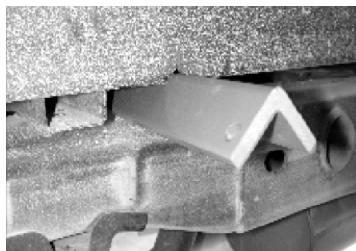
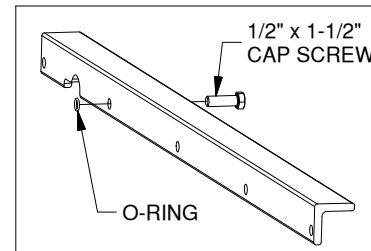

Figure B1.
Figure B2.
1. **Install front cross member.** With the holes in the cross member facing the rear of the truck, slide the angle iron cross member between the truck frame and the bed using the notch that was made in the previous step as shown in Figure B1. Once you start sliding the angle across the frame of the truck, we recommend that you get under the truck and guide it across the frame rails taking care not to damage the brake lines along the driver side of the frame or fuel valve located on the back of the fuel tank on some models. Once the cross member is across the frame rails using the rubber O-ring provided, secure a 1/2" x 1-1/2" long bolt into the second hole in the cross member from the driver side, see Figure B2. Next, push the cross member forward until the cross member is about four inches in front of the four inch hole in the truck bed, making sure that the notch in the angle carefully goes over the brake lines and wiring harness.